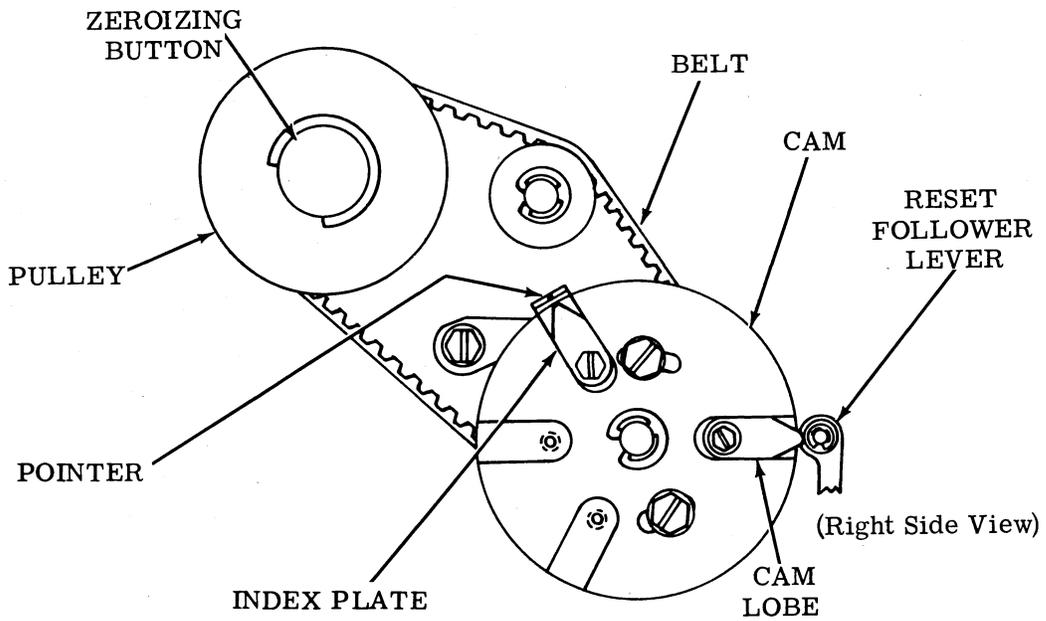

Figure 10 - Zeroizing Position of Platen Drive Mechanism — One Cam Lobe Operation
3.18 Figure 10 illustrates the zeroizing position of the platen drive mechanism for one cam lobe operation. For platen drive mechanisms using more than one cam lobe, see the CAM ZERO POSITION (Platen Drive Area, Sprocket Feed Mechanism) adjustment in the appropriate typing unit adjustment section.